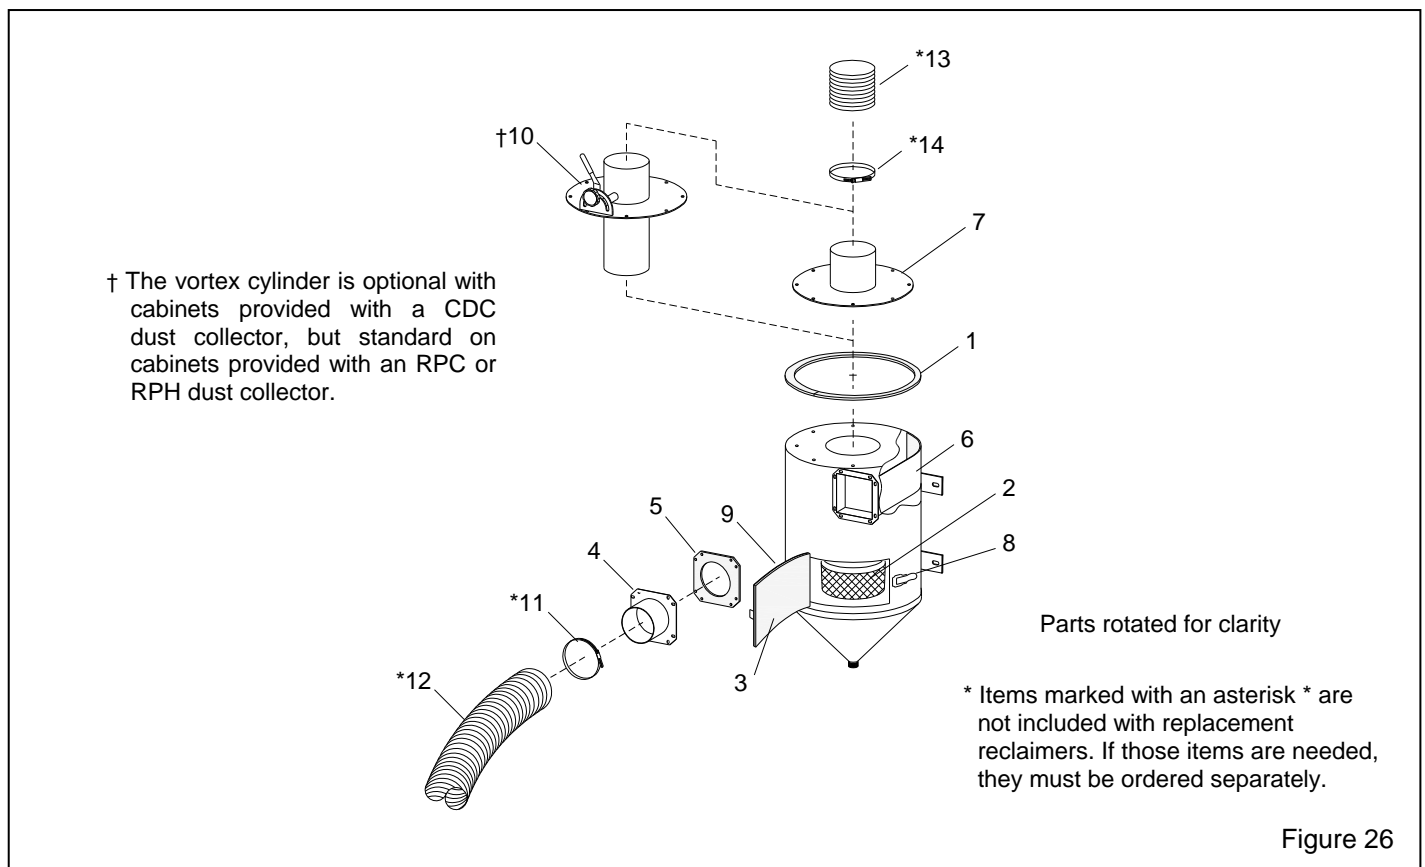

Figure 26
9.10 300 and 600 CFM Reclaimer Replacement Parts, Figure 26